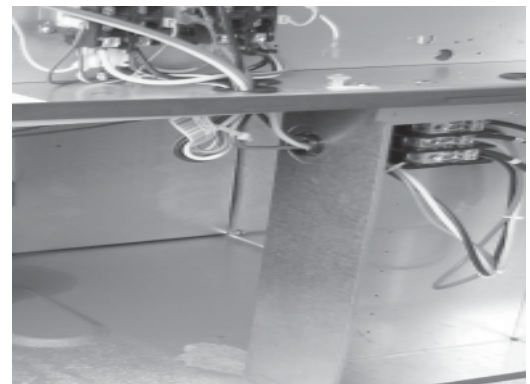

Fig. 1. Installed single point connection box.
3. Remove control box cover. Select and secure single point connection box with (2) screws to the underside of the control box. Whenever required, remove all bushings in the area of the control box (see fig. 1).